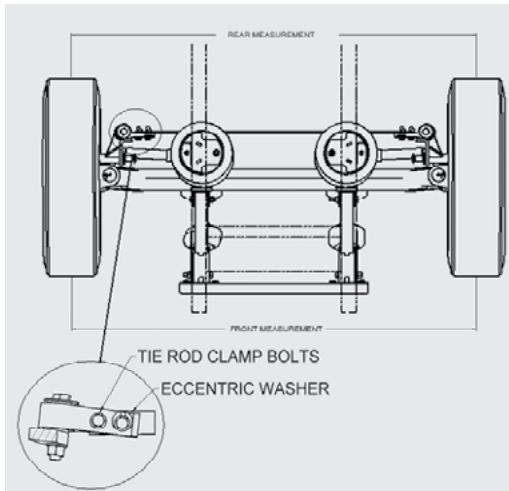

Figure 12. Determining TOE
Toe is the relationship of the distance between the front of the tires and the distance between the rear of the tires on the same self-steer axle measured at spindle height. When the front distance is less than the rear distance, the wheels are in a "toe-in" condition. (See Figure 12)
- a. Compliant Tie Rod: Loosen the tie rod clamp bolts. Rotate eccentric washer to a toe setting of $\frac{1}{16}$ " to $\frac{1}{8}$ " toe-in. Rotate CW to increase toe and CCW to Decrease. (See Figure 12)